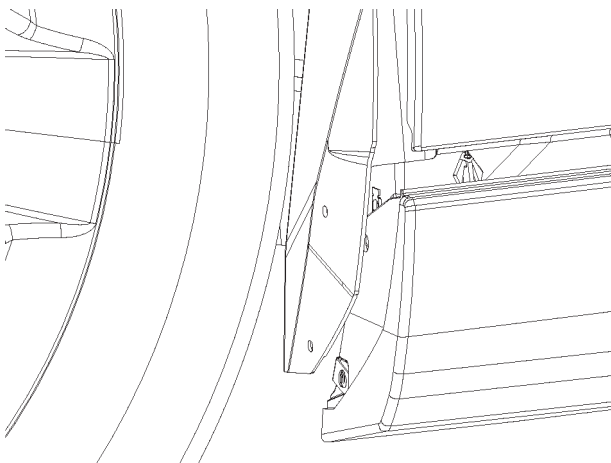

FIGURE 26
10. With the door open, line up the front of the rocker cladding to the inside of the front wheel liner. The rocker cladding will go between the wheel liner and the sheet metal. Refer to figure 26.